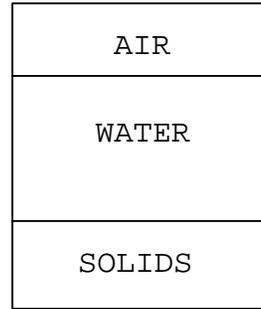

FIGURE 3
- a. Figure 3 - Has more solids per unit volume.
- c. Figure 3